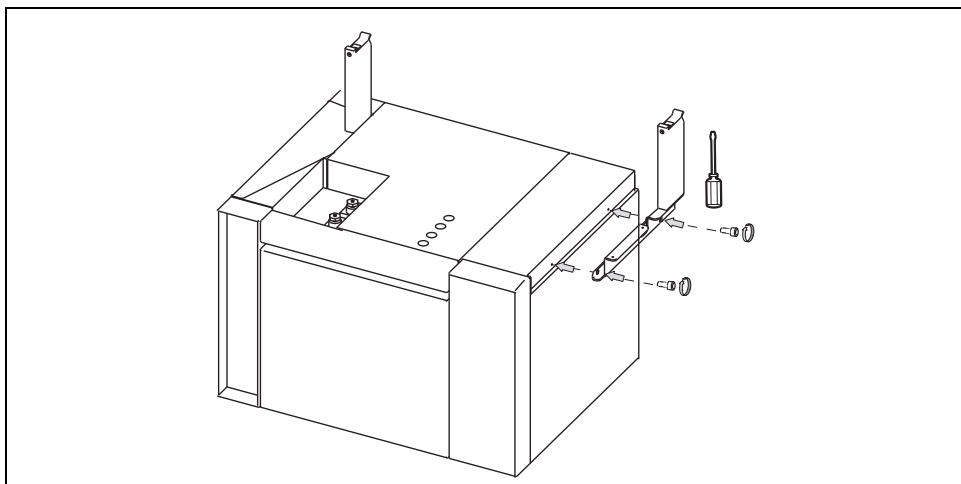

Figure 4-3. Right Sampler Supports Installation on an Agilent 5890 GC
6. Mount the right sampler support on the GC left side as shown in Figure 4-3.